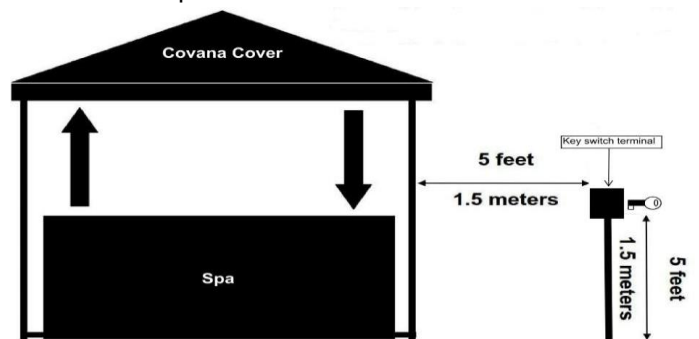

Figure 1
- ♦ The key switch must be permanently mounted and located 5 ft. (1.5 m) away from the spa and 5 ft. (1.5 m) above the deck or ground level. Ensure the user has a clear view of the COVANA cover when operating it. Furthermore, the key switch terminal should be located in a place where no water downpour or debris could fall on it. (Figure 1)